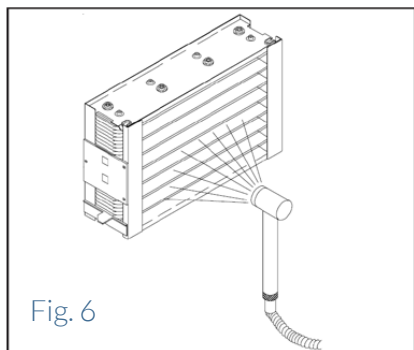

Fig. 6
1. Spray the cell with warm water using, for example, a hand shower (Fig. 6) over a floor drain or in a tub or sink.
4. Rinse thoroughly with warm water (Figure 6).